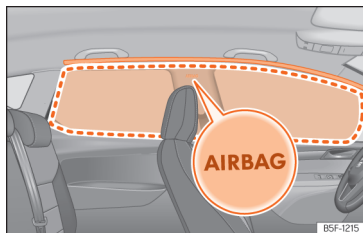

Fig. 33 Location and deployment area of the head-protection airbag.
))) Fig. 33 and their location is indicated with the word "AIRBAG".
The framed area is covered by the head-protection airbag when it is deployed (deployment area)))) Fig. 33. Therefore, objects should never be placed or mounted in this area))) ⚠.
- Ensure that children are correctly seated in their seats and that their heads are not in the deployment zone of the head airbags >>> Fig. 33, as deploying airbags could hit them and cause serious injury.